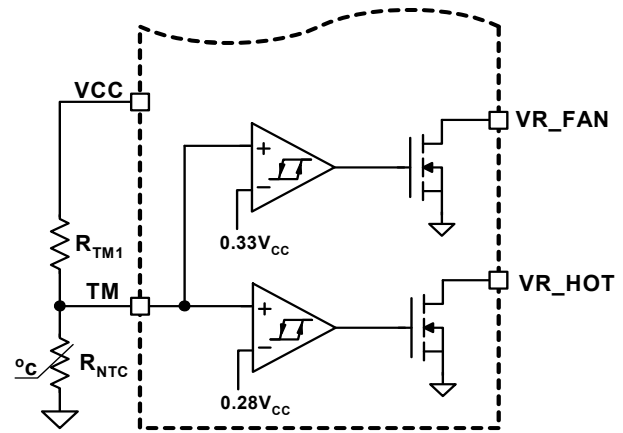
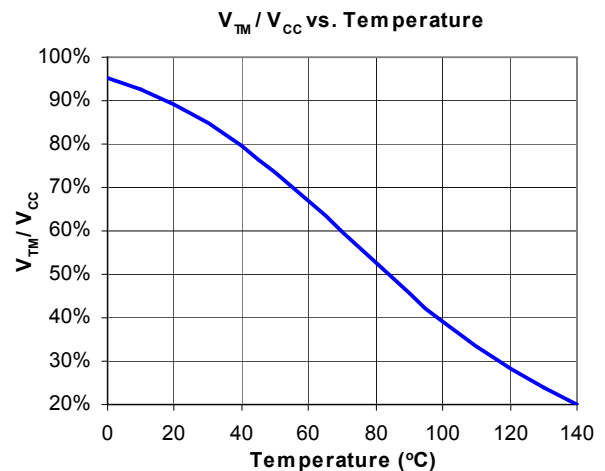

FIGURE 18. BLOCK DIAGRAM OF THERMAL MONITORING FUNCTION
FIGURE 19. THE RATIO OF TM VOLTAGE TO NTC TEMPERATURE WITH RECOMMENDED PARTS
The diagram of thermal monitoring function block is shown in Figure 18. One NTC resistor should be placed close to the power stage of the voltage regulator to sense the operational temperature, and one pull-up resistor is needed to form the voltage divider for the TM pin. As the temperature of the power stage increases, the resistance of the NTC will reduce, resulting in the reduced voltage at the TM pin. Figure 19 shows the TM voltage over temperature for a typical design with a recommended 6.8k $\Omega$  NTC (P/N: NTHS0805N02N6801 from Vishay) and 1k $\Omega$  resistor RTM1.
ISL6307A converts the TM pin voltage to a 6-bit TM digital signal for temperature compensation. With the non-linear A/D converter of ISL6307A, TM digital signal is linearly proportional to the NTC temperature. For accurate temperature compensation, the ratio of the TM voltage to the NTC temperature of the practical design should be similar to that in Figure 19.
1. Properly choose the voltage divider for TM to match the TM voltage vs. temperature curve with the recommended curve in Figure 19.